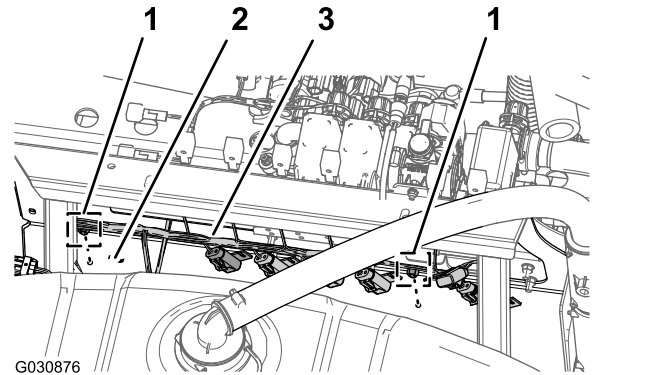

Figure 56
- Remove the push-in fastener that secures the rear wire harness to the holes at the forward side of the manifold mount (Figure 56).